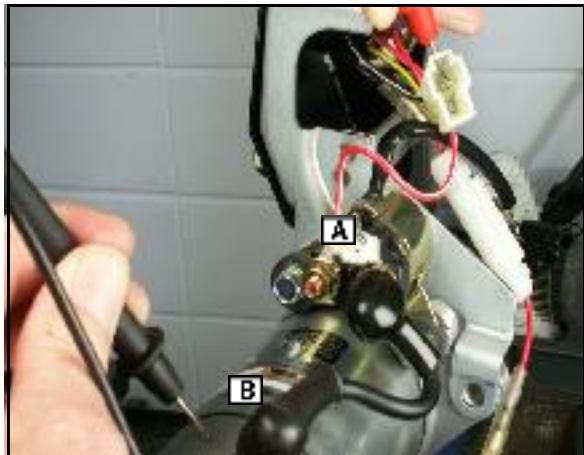

Fig. 58
3. Check for continuity at the yellow terminal (A) of the connector coming from the switch with the key in the **START** position and ground (B) Fig. 58).